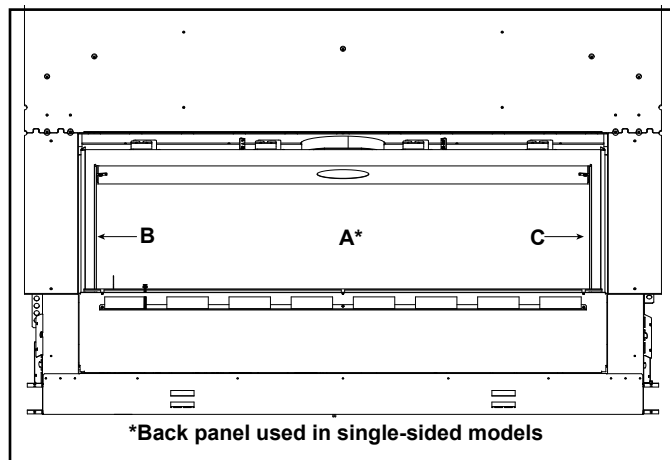

Figure 11.4 Placement of Glass Panels
1. Set back glass panel, labeled A in Figure 11.4, into firebox on top of the two (2) blocks with the smooth side of the glass facing outward. . Position retaining bracket inside appliance as shown in Figure 11.6. Line up the hole in the heat shield with the hole closest to the bend in the bracket and secure in place with a screw. See Figure 11.5 and Figure 11.6.
1. Set left side glass panel, labeled B in Figure 11.4, into firebox with the smooth side facing outward.